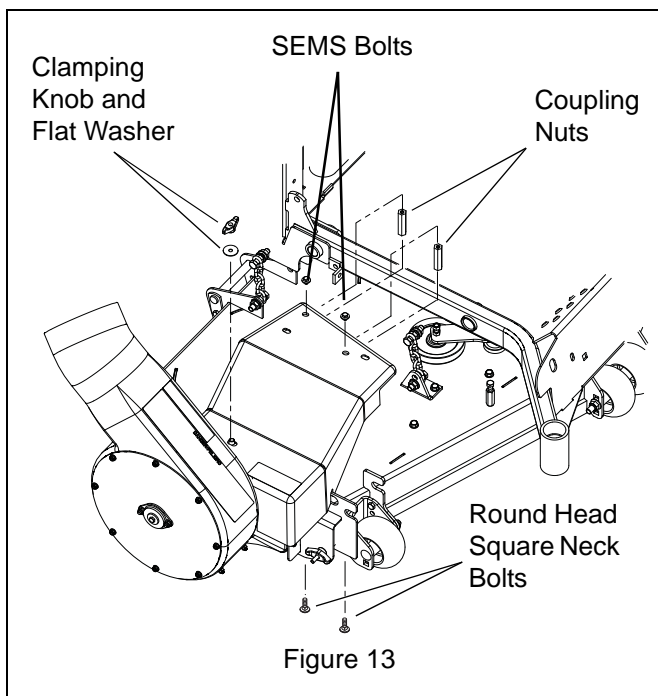

Figure 13
5. Install the two coupling nuts to deck with two 0.31-18 x .75 round head square neck bolts with Loctite patch as shown in Figure 13.